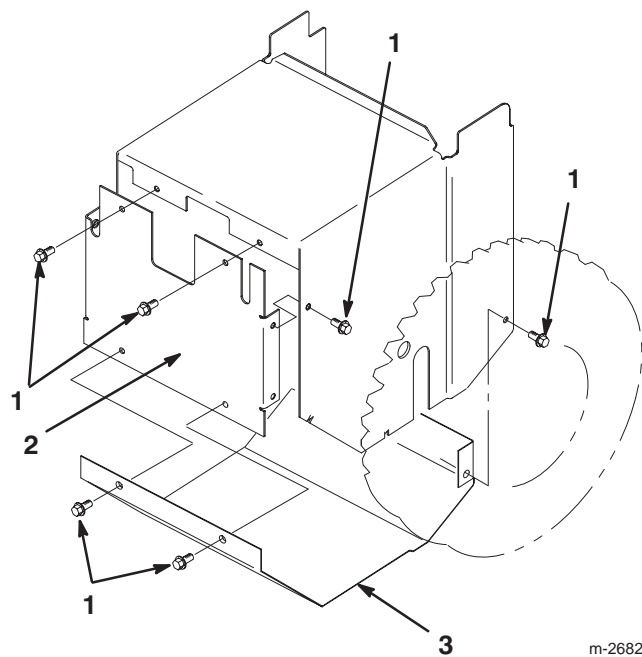

Figure 35
5. Remove the eight bolts that hold the back and the bottom covers in place and remove the covers (Fig. 35).